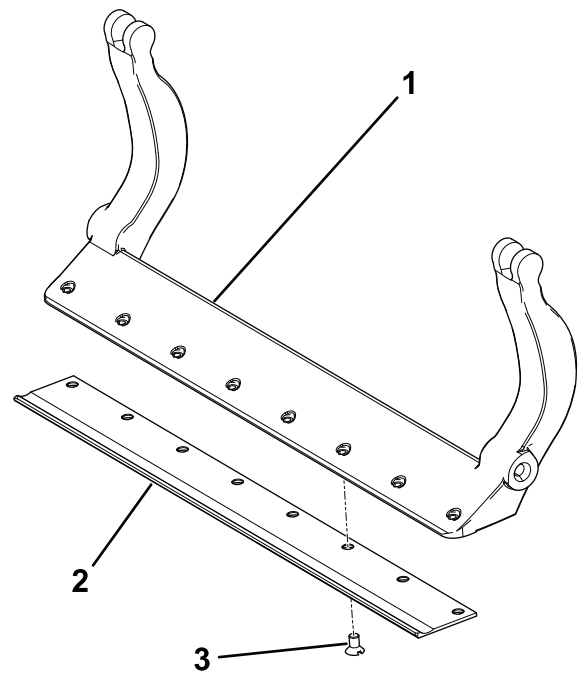

Figure 33
3. Apply anti-seize compound to the screws and install the bedknife to the bedbar as follows (Figure 33):
- A. Torque the 2 outer screws to 1 N·m (10 in-lb); refer to Figure 33.
- B. Working from the center of the bedknife, torque the screws to 23 to 28 N·m (200 to 250 in-lb); refer to Figure 33.